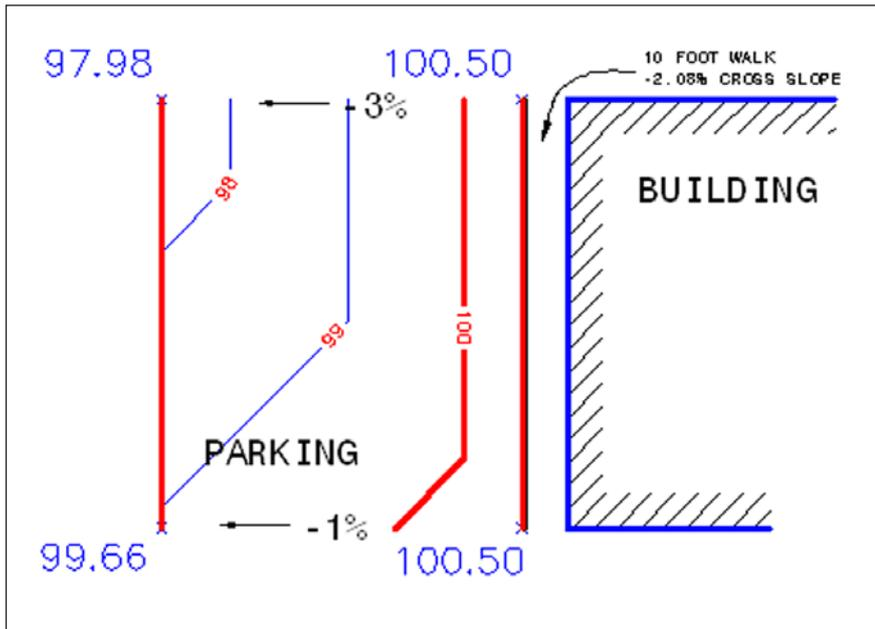

Figure 2 Points at corners only
**Figure 2** shows the resulting contours of this operation. We will see next how to remedy this.